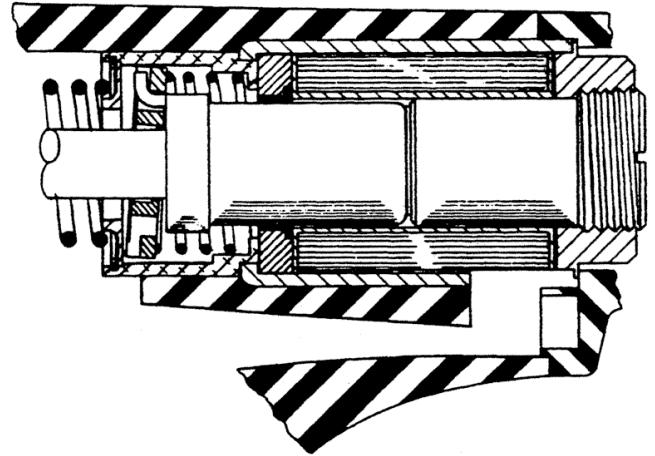

Figure 6: Gun mechanism in lifted position
1. Mainspring (1) is partially compressed and lifting rod (5) slides through lifting ring (4) when the gun is placed in weld position as the plunge is taken up.
2. Pressing gun trigger button energizes gun coil (2).
3. The gun coil (2) pulls back the movable core assembly (3), causing the lifting hook of the movable core assembly to lock the lifting ring (4) on the lifting rod (5).
4. At the same time, the lifting ring spring (6) and core spring (7) are compressed.
5. The cocked ring locks on the lifting rod, and the movable core assembly "lifts" or pulls back the entire assembly, including the chuck and stud (Figure 6).
8. At the end of this time period, the gun coil (2) is de-energized.
9. The movable core assembly (3) is returned to normal position by the core spring (7).
10. The lifting ring (4) is uncocked by the lifting hook and lifting ring spring (6).
11. The mainspring (1) returns the assembly to normal position, and this action "plunges" the molten end of the stud into a pool of molten metal on the base plate, thus completing the weld.